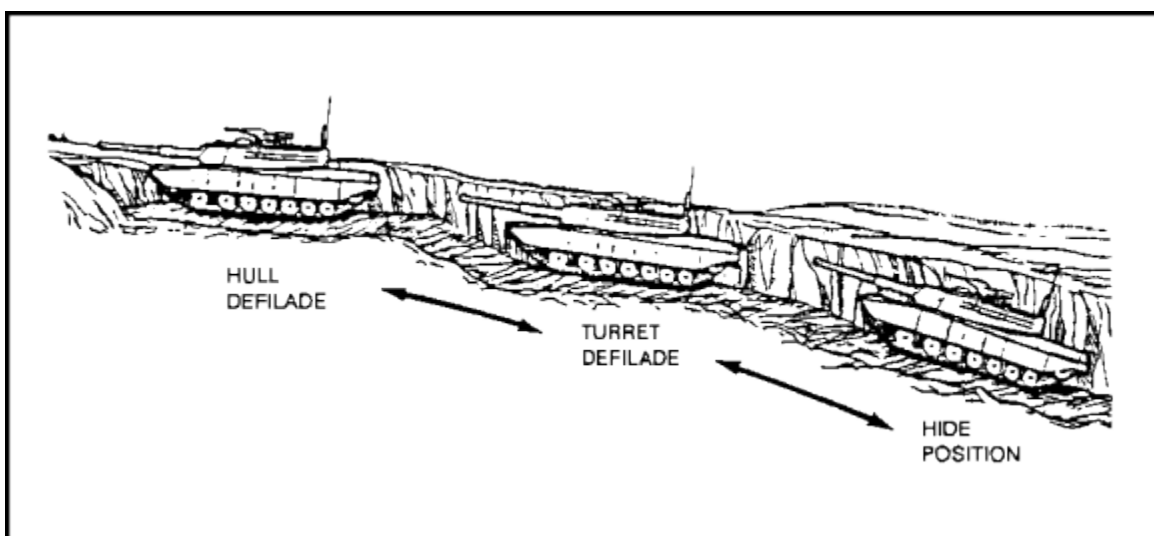

Figure 1-21. Construction of fighting positions
- (3) Survivability. Use the following fighting positions to enhance survivability.
- Excellent vehicle fighting positions allow a vehicle to occupy full hide, turret defilade, and hull defilade positions (see Figure 1-21).